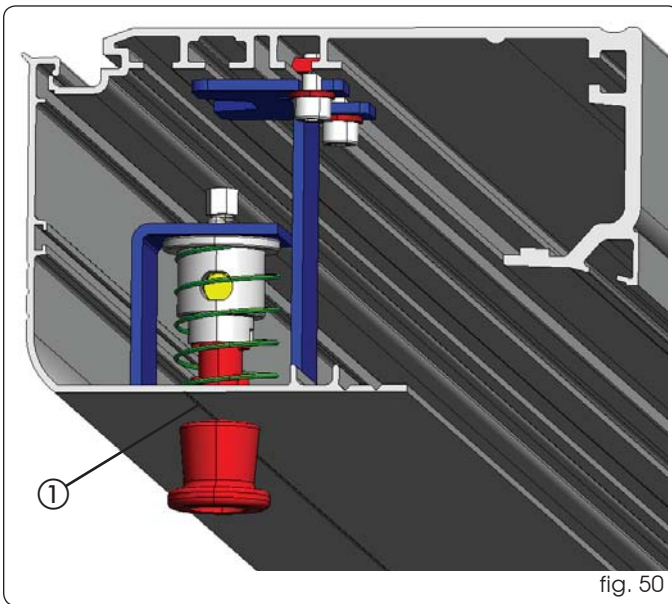

fig. 50
To facilitate the hole, use the line in fig.50 ref.① as a reference.